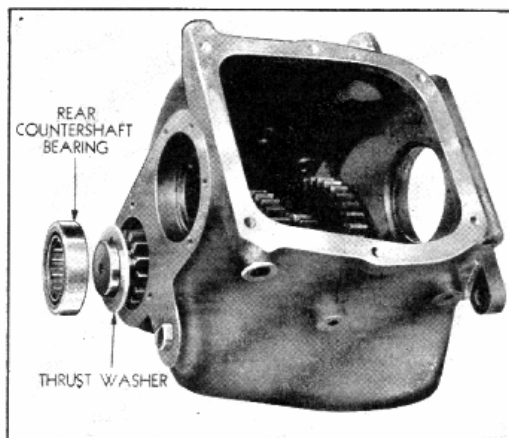

Fig. 7—Assembling Thrust Washer and Roller Bearing on Rear End of Counter Shaft.
Assemble the countershaft front bearing (36) and spacer (37) in place in the transmission case (35), making sure that the bearing is tight against the spacer, and that the spacer is flush with the front surface of the case. Place the countershaft and gear assembly in position and install the thrust washer (24) and rear bearing (22), as shown in Fig. 7.